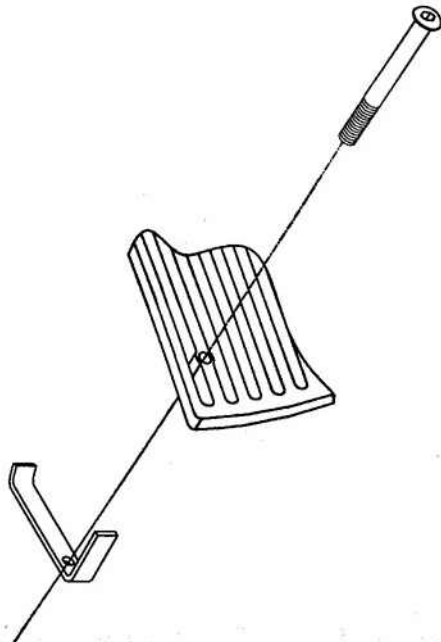
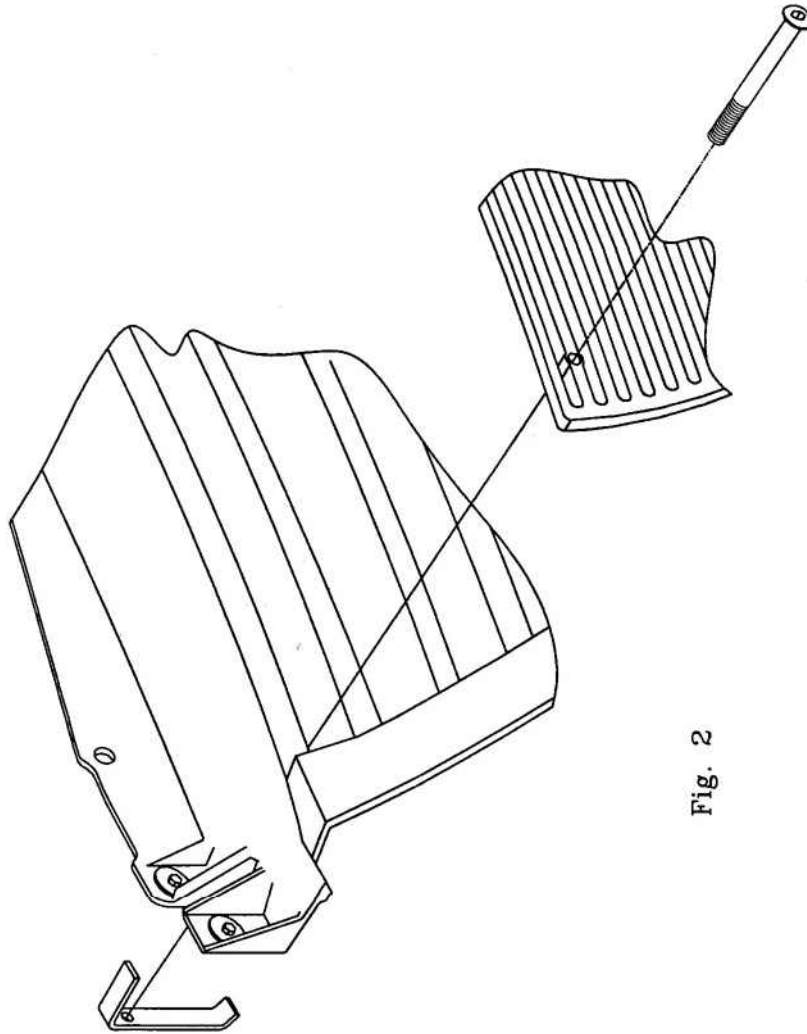

Fig. 1
Fig. 2
2. The vehicle grille will **not** need to be removed for this installation. Insert the ¼-20 x 2.5 button head screw (item #2) into the grille insert (item #1). Thread the retainer plate (item #3) on the screw approx. 1/4", see fig. 1
3. With the retainer plate in the horizontal position (fig. 1), place the grille insert assembly into position and After it goes through the grille, allow the retainer to rotate 90 deg. As shown in fig. 2.